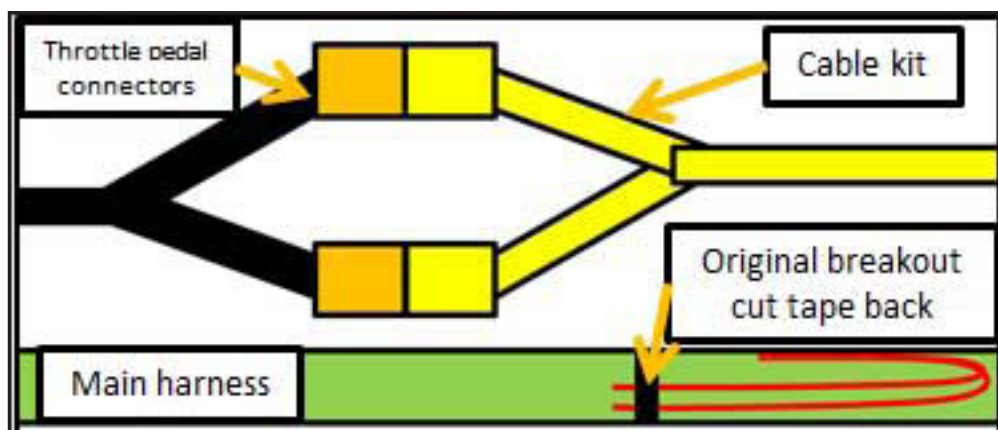

Figure 21 - Front-to-Back Cable Connection
- 2.8. Cut the original throttle pedal connectors on the main harness side and tape back the original breakout wires. Connect the throttle pedal connectors to the front to back cable connectors (+DH-X01D and +DH-X01E) and secure with tie wraps from the throttle pedal connectors to the ITS compartment (see Figure 21).